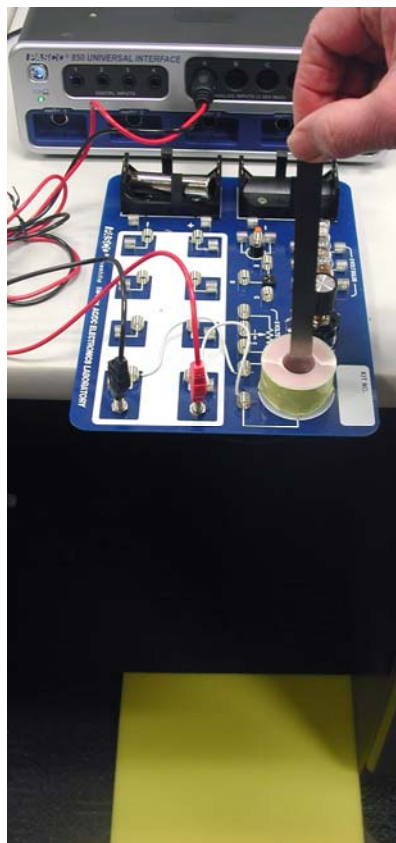

Figure 2: Setup
2. Connect white wire jumpers from the coil connector springs to the banana inputs for the Electronics Laboratory as shown in Figure 2. Connect red and black ends of the Voltage